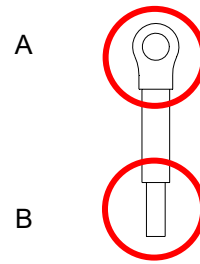

Figure 8-7
- The option cards listed below must connect to ground when wiring. The ground terminal is enclosed with option card as shown in Figure 8-7.